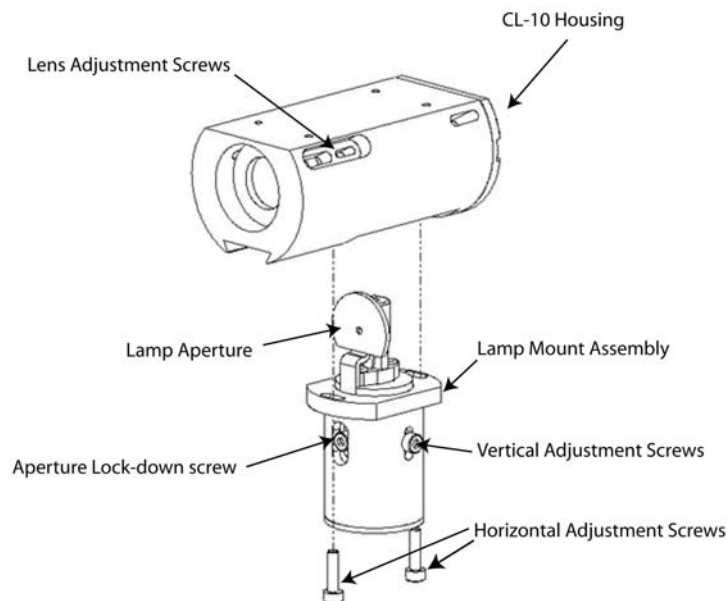

Figure 3-1 Lamp Assembly
- Step 1 Remove the lamp assembly from the projector housing by removing the two vertical screws as shown in Figure 3-1 on page 19. Note that the lamp sits behind a small hole in a baffle-plate.